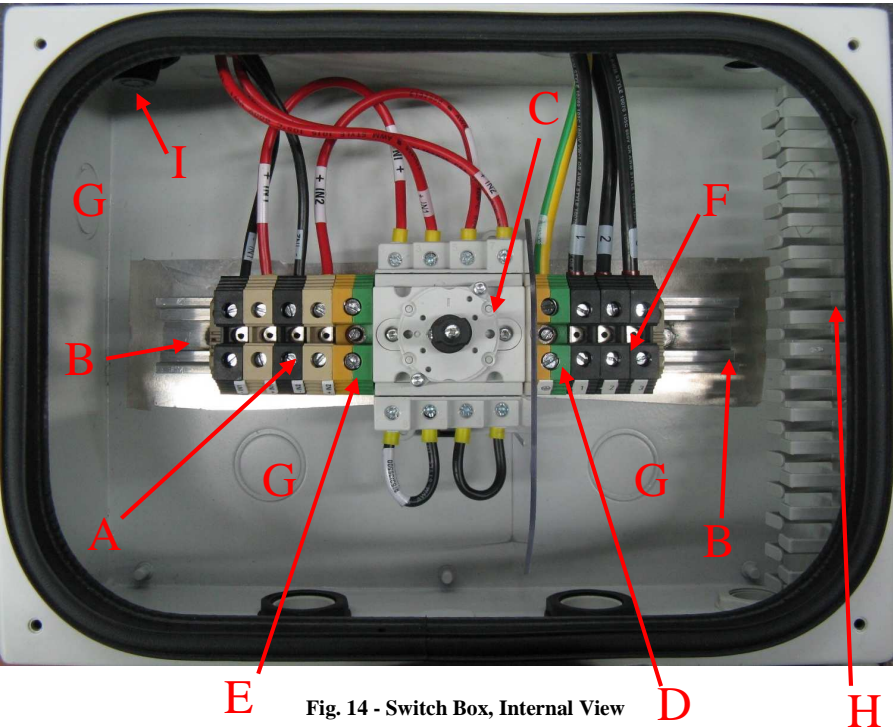

Fig. 14 - Switch Box, Internal View
Step 2: Remove the Switch Box cover and the Inverter cover as described in section 3.3.3 and connect the DC cable to the terminal block at pos "A" in Fig. 14 carefully check the correct polarity of the DC cable.
Step 4 (optional): Open the inverter cover as described in section 3.3.3 and connect the signal cable. Pass the cables inside the Switch Box through the input knockouts (see pos "D" Fig. 12), put the signal cables inside the plastic conduit (see pos "H" Fig. 14), and then inside the inverter through the cable gland placed in the upper side of the Switch Box; finally screw the cables to the connectors counterparts present in the mounting kit and connect it to the inverter.
WARNING: Verify that the DC voltage in the Switch Box input (terminal block pos. "A" Fig. 14) has the correct polarity and is within the operational range.
Step 4: Connect the 3 AC wires to the relative terminal block present inside the Switch Box (Fig. 17). The AC wire connections should be done based on the type of AC Grid by following Table CN-01 – "AC Grid Connection ". The ground cable shall be connected to the terminal block indicated by the pointer of pos. "F" of Fig. 14.